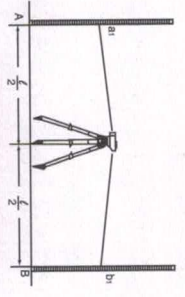

Fig. 12
- (1) Set the instrument halfway between A and B. Staff A and B shall be 30~40m away, the readings are a_1 , b_1 (Fig.12).